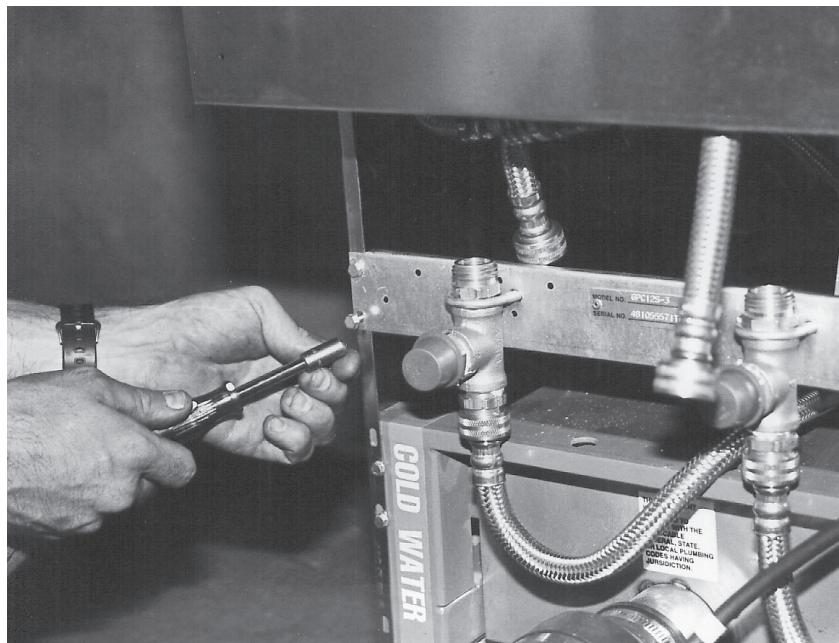

Fig. 79
4. With a  $\frac{5}{16}$ " socket, remove (4) screws holding the rinse station support back bracket. (Fig. 79)